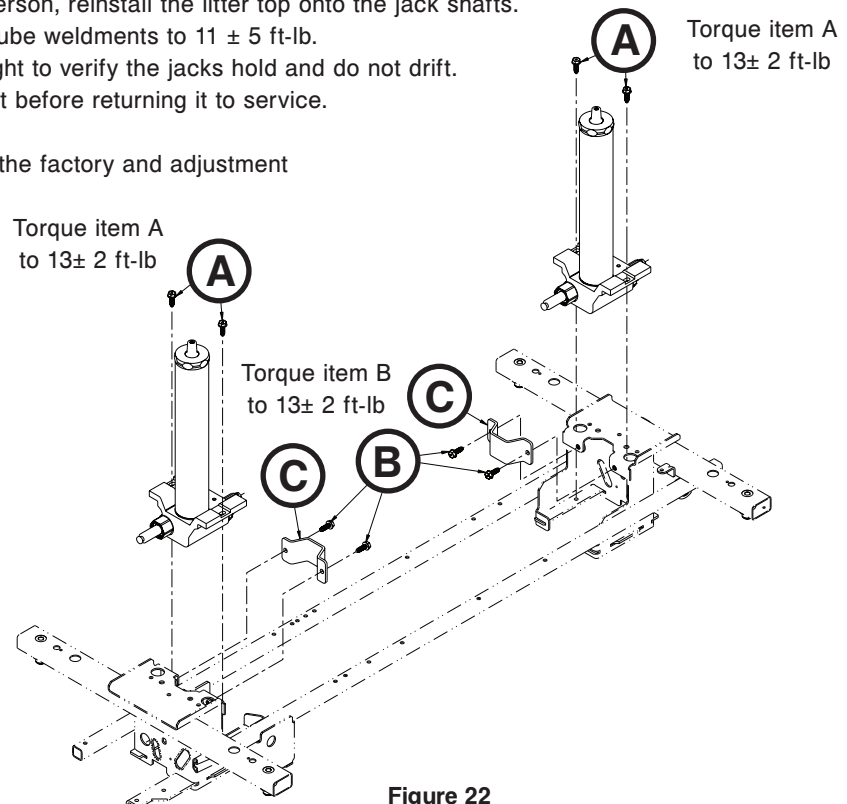

Figure 22
7. Using a 1/2" socket with 3/8" drive extension and a 3/8" drive ratchet, remove the two hex washer head screws (B) that hold the reservoir clamp (C) (Figure 22).
9. To reinstall the new jack, install the hex washer head screws (A and B) on the jack and reservoir clamp (C), but do not tighten them fully (Figure 22). When reinstalling, torque the screws to  $13 \pm 2$  ft-lb (Figure 22).